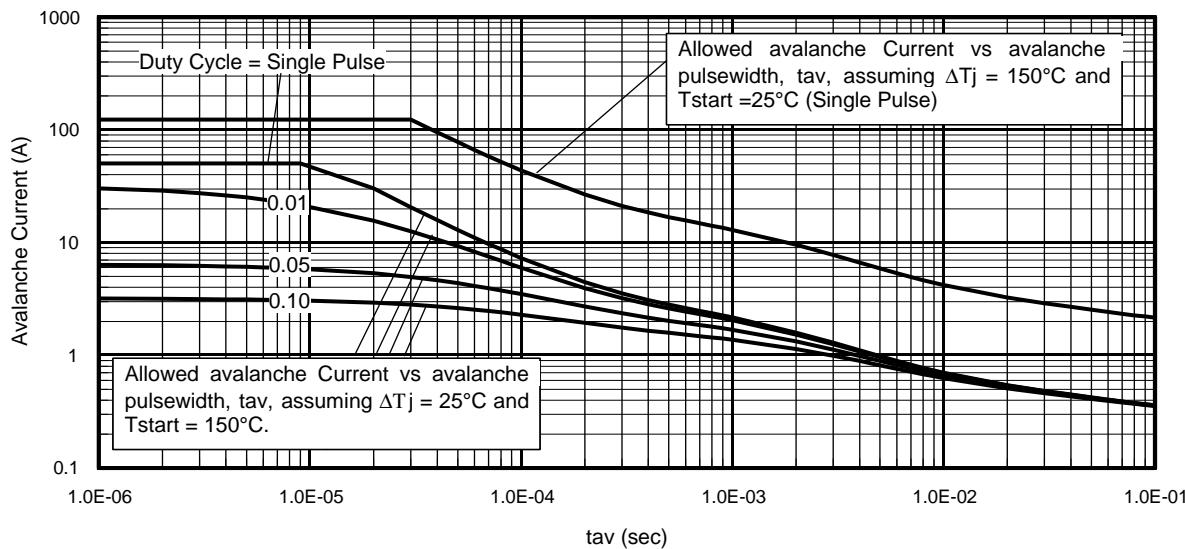

Fig 15. Typical Avalanche Current Vs. Pulselwidth
Notes on Repetitive Avalanche Curves , Figures 15, 16:
7. ΔT = Allowable rise in junction temperature, not to exceed T_{jmax} (assumed as 25°C in Figure 15, 16).